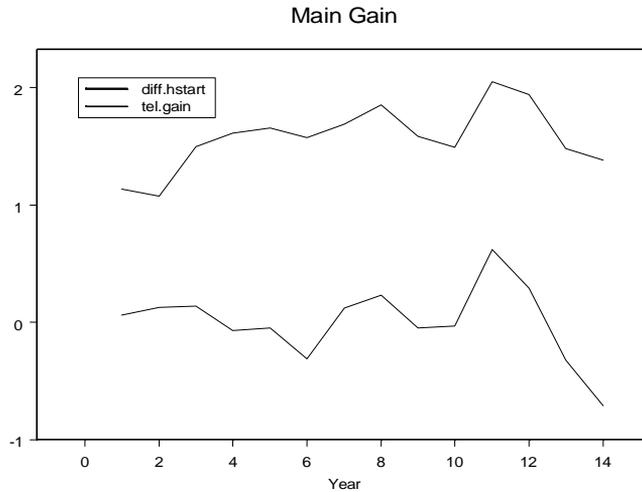

Figure 3.25: *Formatted plots of tel.gain and diff.hstart.*
- Now click the **Auto Legend** button  on the **Graph** toolbar. A legend is automatically created and placed on your graph. You can position the legend by selecting it (click just inside the border of the legend) and dragging it to the desired location. The resulting graph is shown in Figure 3.25.